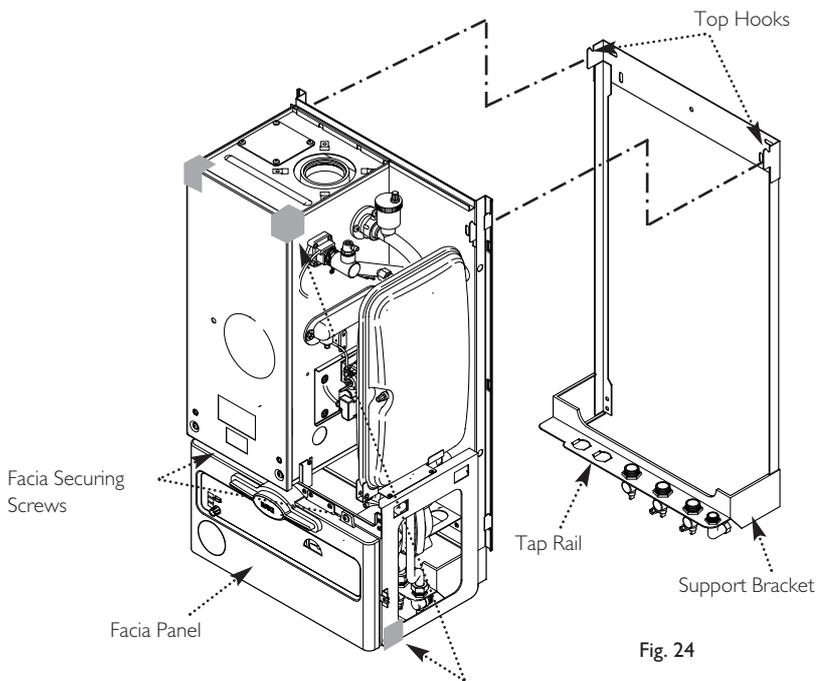

Fig. 24
8.4 Fitting The Boiler (Fig. 24)
2. Lift the boiler over the support bracket using the lifting points shown in Fig. 24 and engage onto the top hooks (see Lifting paragraph page 4).
NOTE: When installing in Loft/Small Compartment access for lifting the boiler from the front can be gained for two people using the lifting points (Fig. 24).